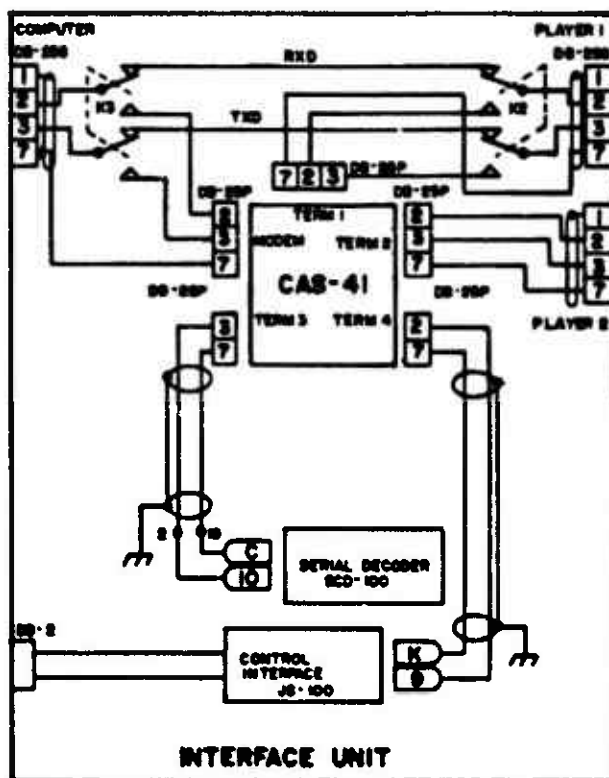

Figure 2-10. CAS-41 SERIAL SELECTOR AND CABLES
2.2.4.7 CAS-41 Serial Selector - The CAS-41 is a microcomputer controlled RS 232 selector built by Western Telematics Inc. The unit was designed to permit one serial device to select and communicate with one of four serial devices. As it is used in the ATR System the CAS-41 allows the MicroTICCIT terminal to talk to either the serial decoder card, the control interface card or one of the videodisc players. Figure 2-10 shows the CAS-41 and the internal serial cables for the ATR Interface Unit. Note that there is bidirectional communication only between the computer and the videodisc players; the other cables are one directional.